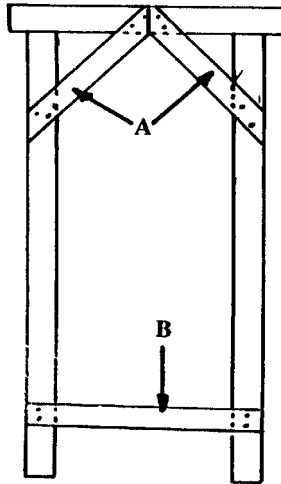

Fig. 9
34. Figure 9 shows a door frame prepared for site delivery. Explain briefly the purpose of each of the temporary components A and B.